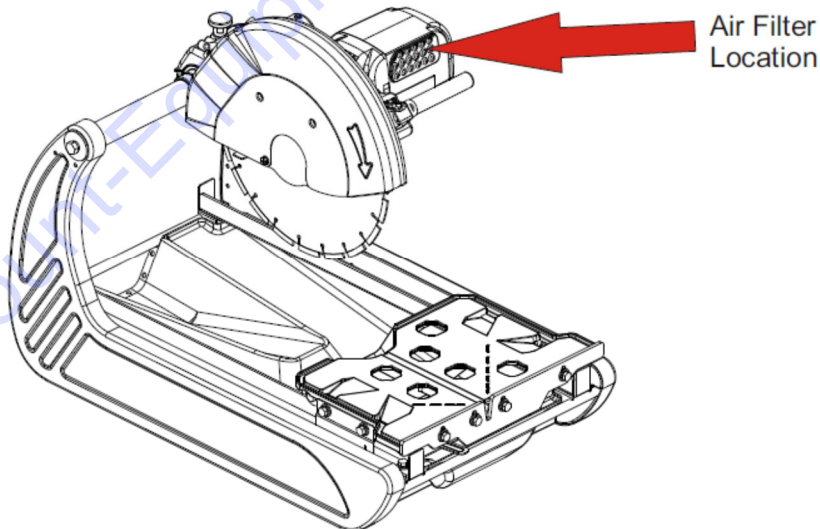

Figure 5-1: Air Filter Location
1. Carefully remove the Air Filter from the Motor Air In-Take Cover opening. Do not tear or damage the Filter (see Figure 5-1: **Air Filter Location**).